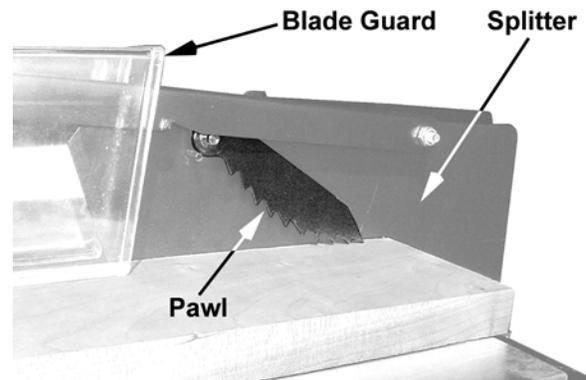

Figure 23
- ❑ As the machine receives use, the operation of the anti-kickback pawls should be checked periodically (Figure 23). If the pawls do not stop the reverse motion of a workpiece, sharpen all the points.